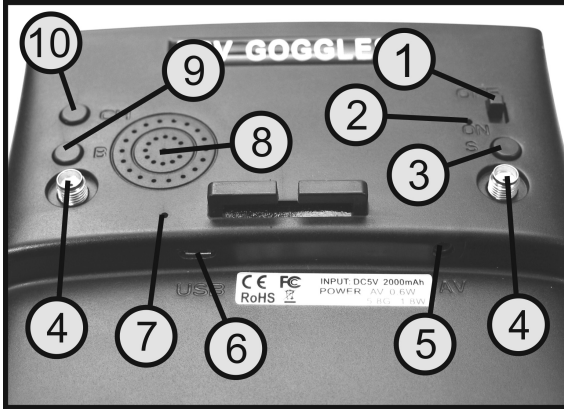
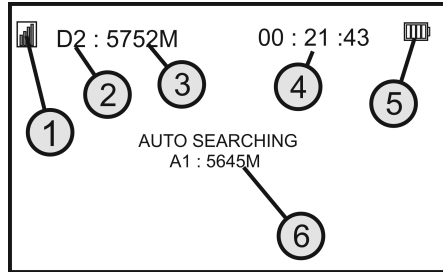

Figure 22
Figure 24
Turn on the FPV goggles using the function switch (see Figure 22, no. 1). A blue LED (see Figure 22, no. 2) next to the function switch will go on to indicate that the goggles are supplied with power.
Press and hold down the button for the channel search (see Figure 22, no. 10) until the search indicator (see Figure 24, no. 6) appears on the display.
In addition to an automatic search, the goggles can also be set manually. You can use the button for frequency band switching (see Figure 22, no. 9) to select the frequency bands (A – F). You can use the button for channel switching (see Figure 22, no. 3) to manually switch the channels (for example, A1 – A8).
Each time the button is pressed, the setting value changes and can be seen on the display (see Figure 24, no. 2 and no. 3). When the last adjustable value has been reached, the first adjustable value is displayed the next time the button is pressed.
Briefly press the button for the setup menu or channel search (see Figure 22, no. 10). The display will show the brightness value and a corresponding bar chart (1).
You can use the button for frequency band switching (see Figure 22, no. 9) to decrease the current setting. You can use the button to switch channels (see Figure 22, no. 3) to increase the current setting.
To go to the next menu item and save the previously made setting, press the button for the setup menu or channel search again (see Figure 22, no. 10).